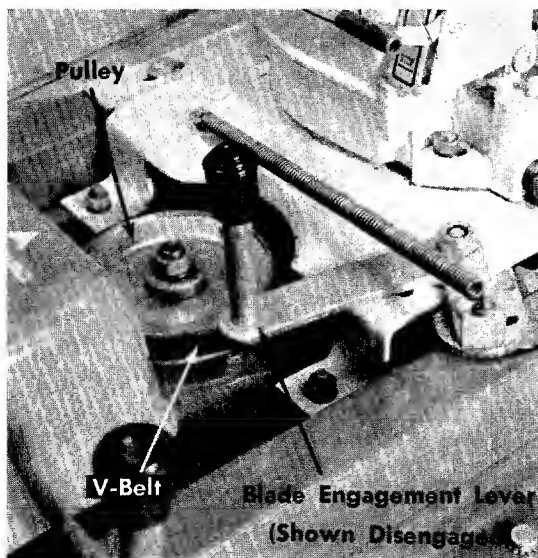
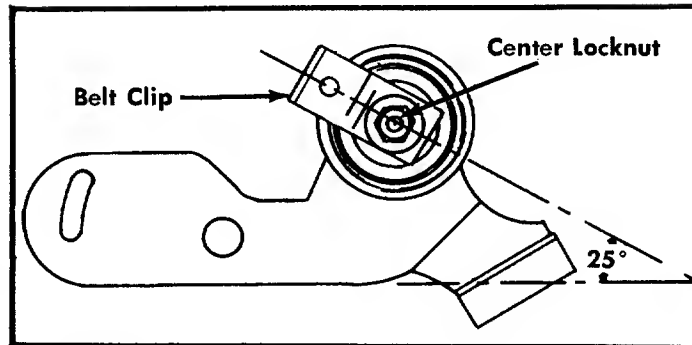

FIGURE 20 BLADE ENGAGEMENT LEVER
FIGURE 21. BELT IDLER
Step 5. Remove the belt from the transmission idler. See figure 20.
Step 5. Place the blade engagement lever in the engaged position (See figure 20.) and loosen the center locknut on the blade idler. See figure 21.
Use a $\frac{1}{2}$ " open end wrench. When installing the new belt be sure the belt clip is in the same position as shown in figure 21.